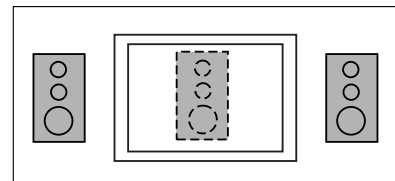

Figure 2.
**S4VC:** If you have purchased the vertical channel speaker (model S4VC) for the center position, be sure to place it vertically during installation in order to take advantage of its sound-dispersion characteristics. If you mount it horizontally, it will not provide the correct dispersion pattern. If the speaker is being used with a perforated projection screen, it should be mounted behind the center of the screen (see Figure 2). If a nonperforated projection screen, plasma display or other fixed video device is being used in the installation, the preferred center speaker is the model S4HC (below).